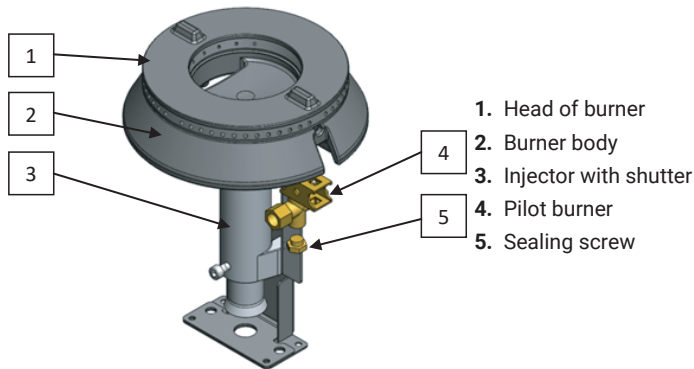

Figure 18. Construction of the burner on the example of 7kW burner.
1. If you convert the stove from natural gas to propane gas or LPG, unscrew the sealing screw on the bottom of the pilot pilot, then remove the pilot nozzle with the feature 40 and screw in the nozzle with the feature 20 all the way (in case of propane or LPG, the same nozzle is used). Then screw in the sealing screw. (Fig.18 item 5) Light the pilot burner. The flame should heat the thermocouple and burn with the bright flame. If this is not the case, adjust the airflow using the shutter at the top of the pilot.